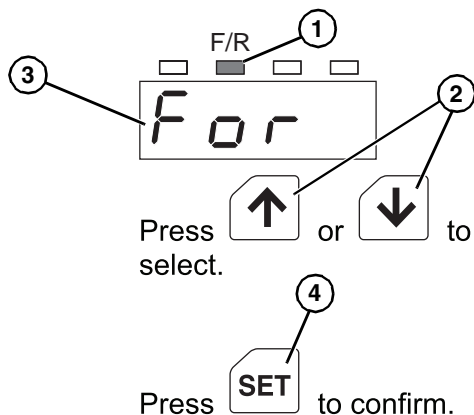

Figure 33
The F/R LED (**Figure 33, item 1**) will illuminate.
2. Press up or down (**Figure 33, item 2**) to select a desired direction. “For” (**Figure 33, item 3**): Clockwise or “rEv”: Counterclockwise.
3. Press SET (**Figure 33, item 4**) to confirm the selection.